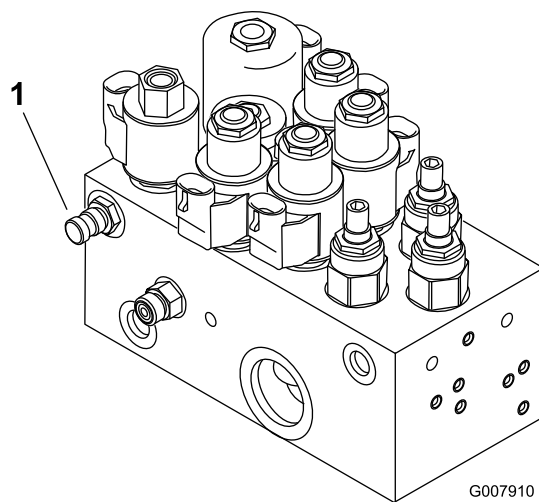
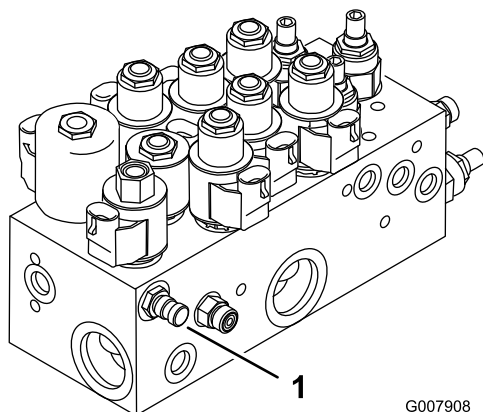

Figure 79
Figure 78
1. Test Port A (Figure 78 and Figure 79) is used to assist in trouble shooting the hydraulic circuit for the lift cylinders.